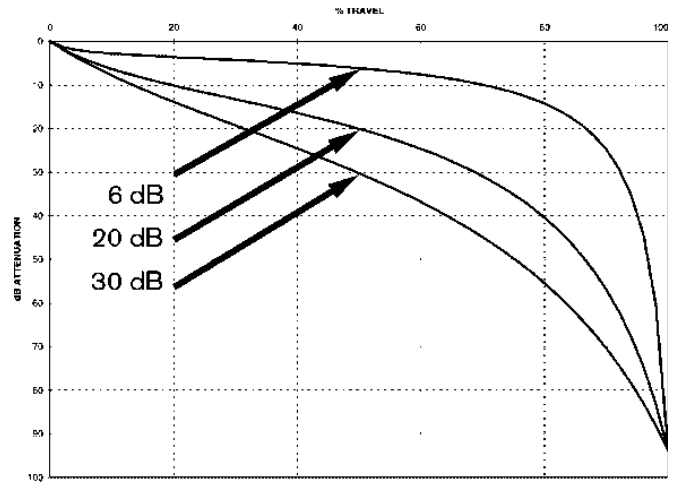

Figure 2. Contour Switch
- ③ **BALANCE** controls are used for **LEFT/RIGHT** balance of **PGM 1** and **PGM 2** or for **LEFT/RIGHT** Pan effect. Push the control to the left and sound moves to the left channel. Push the control to the right and sound moves to the right channel.
- ④ **EFFECTS** engage switches are provided for **PGM 1** and **PGM 2**. *These two switches determine the location of a single, assignable, stereo **EFFECTS LOOP**.*
⑤ **CONTOUR** switches provide three tapers for **PGM 1** and **PGM 2 Program Faders**. The numbers **6, 20** and **30** indicate the mid-point attenuation. Settings can provide smooth fade or cut and scratch effects. Note from the graph shown in Figure 2, that the **6 dB** setting provides a *quick on* contour for cut and scratch (0% travel is with Program Fader up). When used with the **HAMSTER** reversal switch, the **Program Fader** operates very similar to the **Crossfader**, allowing the same hand motion for cut and scratch operation. The **20 dB** setting provides a normal audio taper while the **30 dB** setting provides a more rapid fade out.